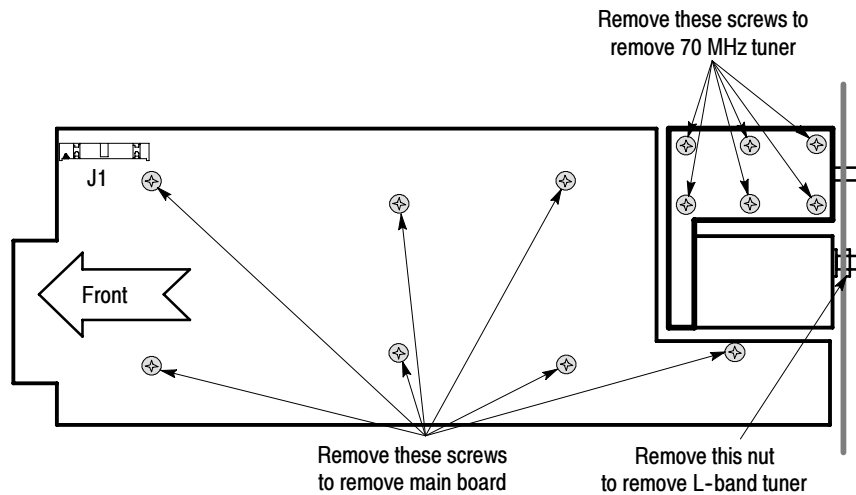

Figure 2: Location of attaching screws
5. Remove the hex nut from the rear-panel L-BAND INPUT connector (see Figure 2).
15. Remove the seven screws that are holding the Main board in place (see Figure 2).